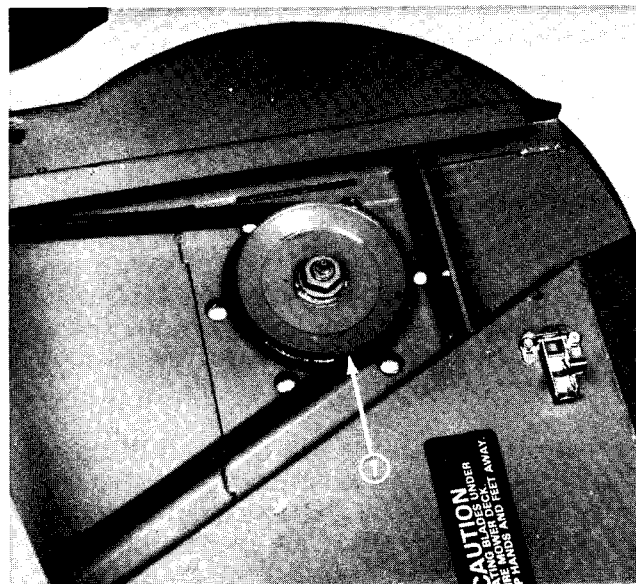

Figure 36
5. Remove the six carriage bolts and flange nuts holding the spindle housing assembly and support ring against the cutting unit deck housing (Fig. 36). Slide the spindle housing assembly out through the bottom of the cutting unit.
9. Slide the pulley end of the spindle housing assembly up through the hole in the cutting unit. Loop the belt around the pulley and idler. Mount the spindle assembly in place with support ring and six carriage bolts and flange nuts (Fig. 36).